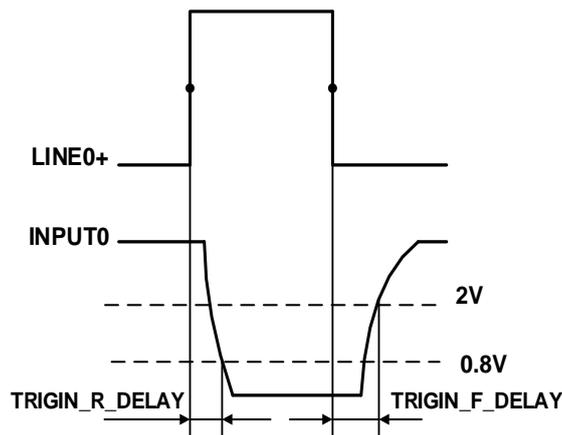

Figure 7-7 Parameter of opto-isolated input circuit
- Rising edge delay: $<50\mu\text{s}$ ($0^{\circ}\text{C}\sim 45^{\circ}\text{C}$), parameter description as shown in Figure 7-7
- Falling edge delay: $<50\mu\text{s}$ ($0^{\circ}\text{C}\sim 45^{\circ}\text{C}$), parameter description as shown in Figure 7-7